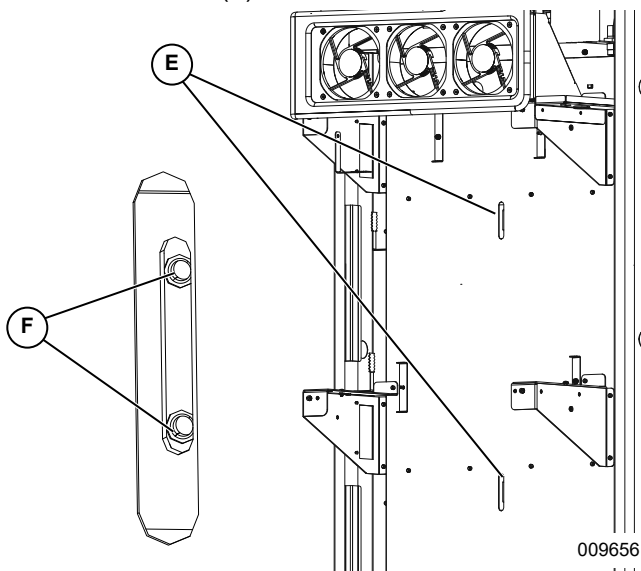

Figure 4-6. Mounting Bracket (2 of 2)
2. See **Figure 4-6**. Align body slots (E) with wall bracket holes (F).